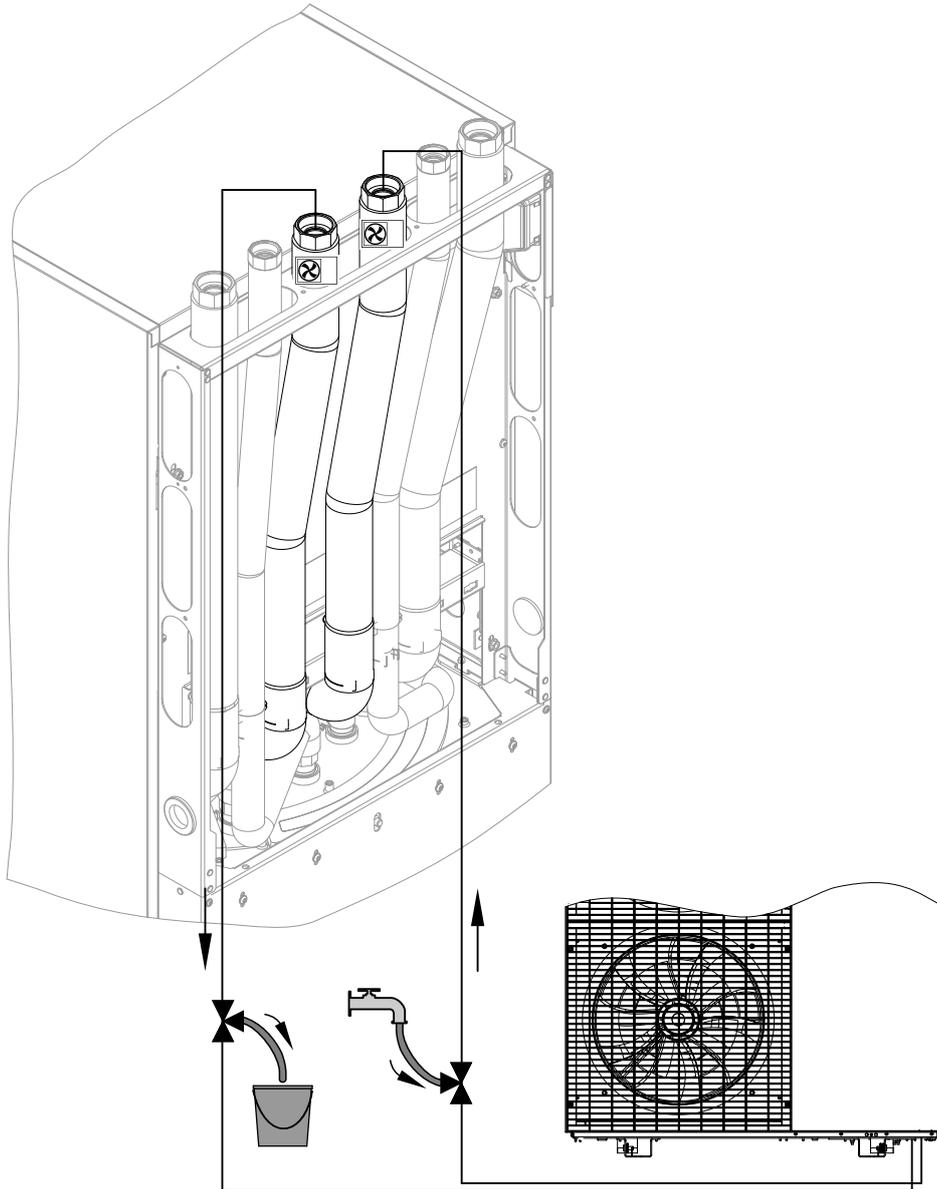

Fig. 68
3. Open the outdoor unit 3-way flow and return ball valve as shown in Fig. 68: **Open in all directions**